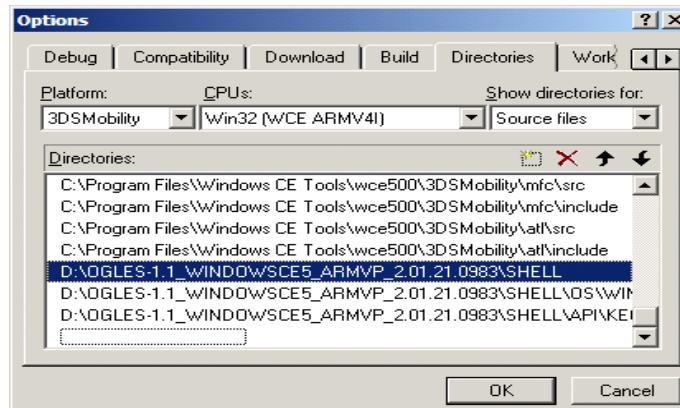

**Figure 8. Options Window with Show Directories for: Library Files**
3. Select the platform as Installed SDK in the Platform Builder, and use the other settings as shown in Figure 8.